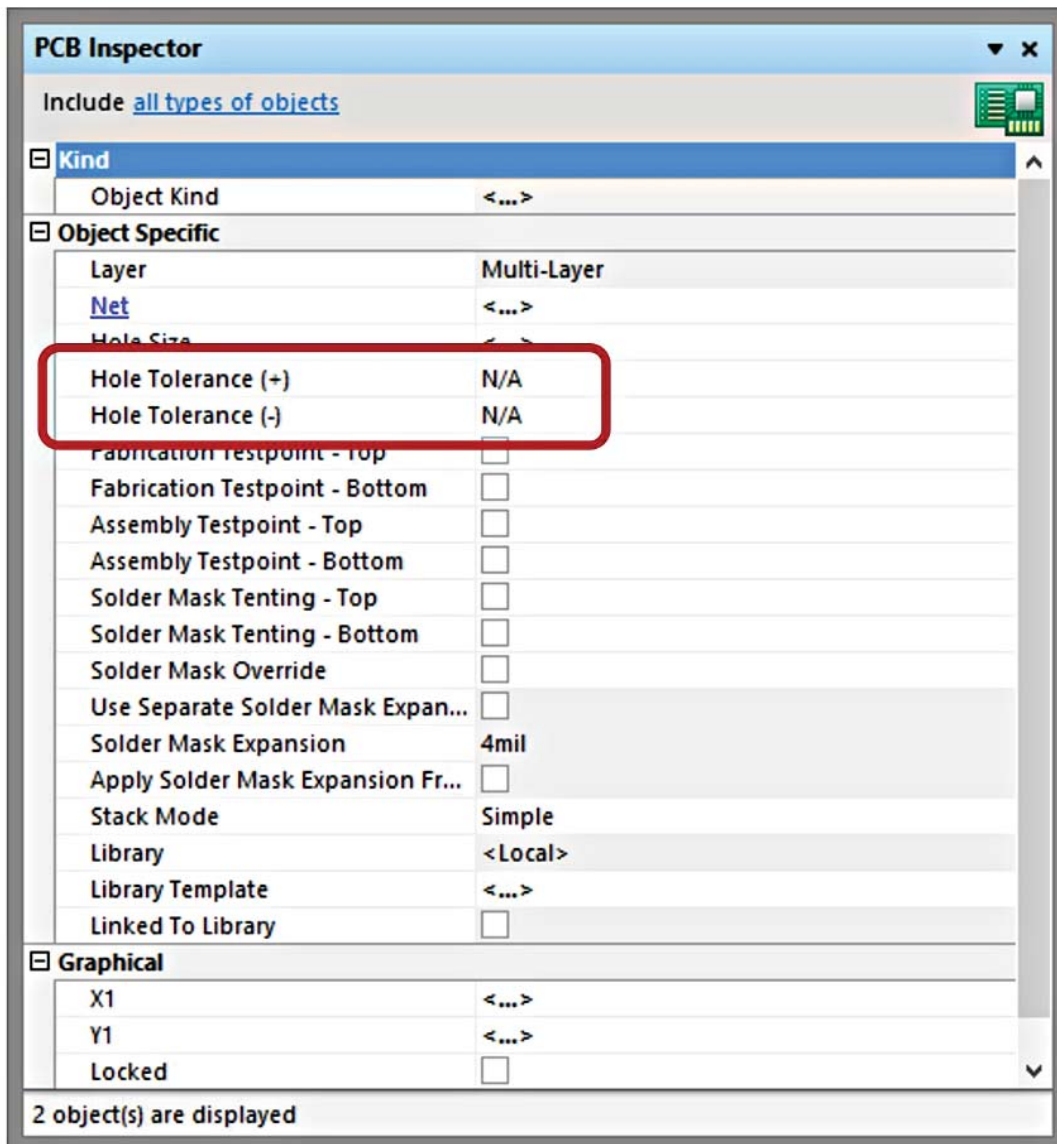

Figure 3: Set hole tolerance for multiple holes and vias using the **PCB Inspector** panel.
- Open the **PCB Inspector** panel, shown in Figure 3. Select the pads or vias on the PCB that you wish to set and enter the necessary hole tolerance values in the panel, in the right-hand column under **Object Specific**.